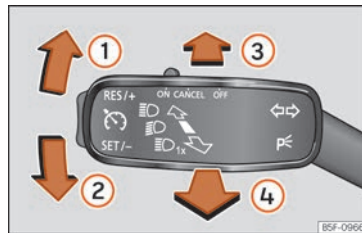

Fig. 98 Turn signal and main beam lever.
- From the base position, press the turn signal and main beam headlights lever forwards »» **Fig. 98** .
- **OR:** while the main beam is on, pull the turn signal light and main beam headlights lever forwards »» **Fig. 98** .